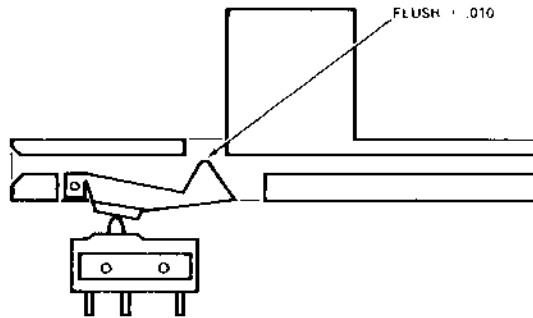

FIGURE 38. WRITE PROTECT SWITCH ADJUSTMENT
- a. Adjust the switch so that the actuator will just transfer the switch when its point is flush $\pm .010$ within the top of the groove in the guide rail. Reference Figure 38.